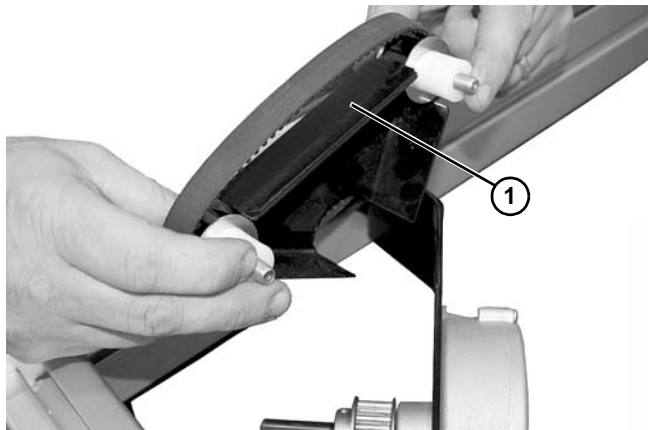

Figure 131
2. Remove guide track assembly (**Figure 131, item 1**).